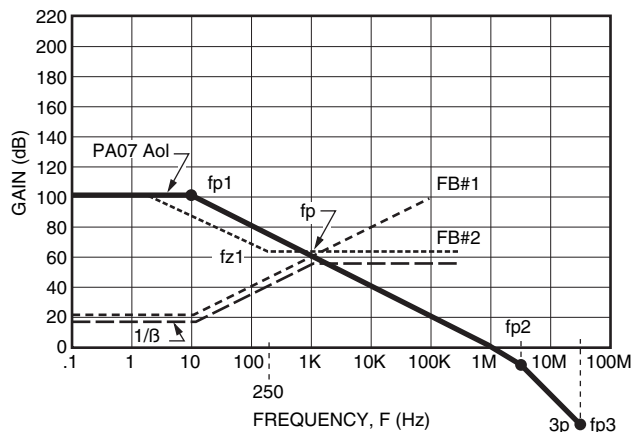
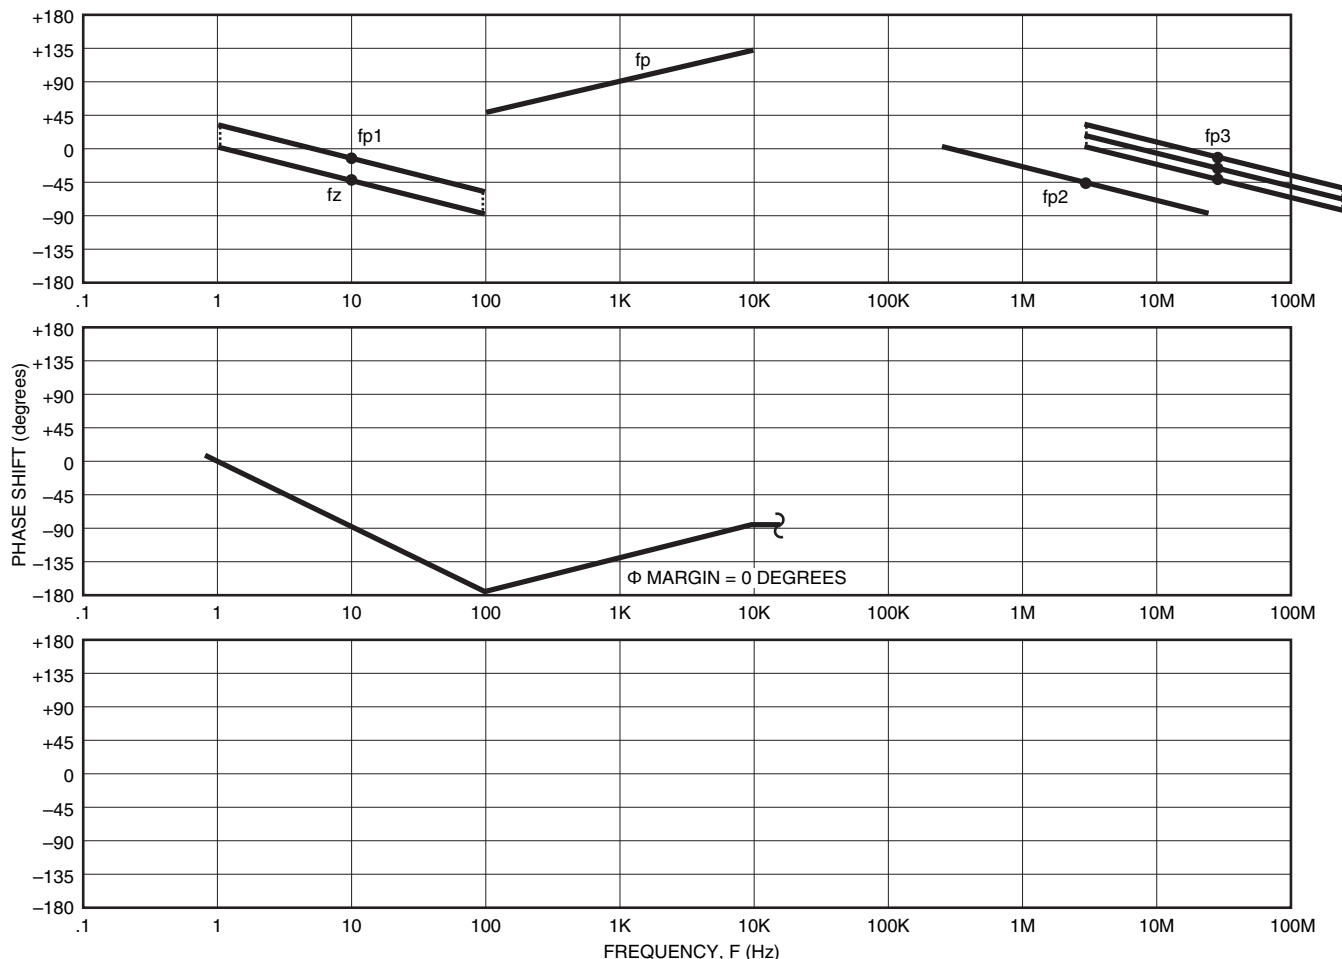

FIGURE 19. FIRST GUESS MAGNITUDE PLOT FOR STABILITY
FIGURE 20. FIRST GUESS OPEN LOOP PHASE PLOT FOR STABILITY
STEP 3: Refer to Figure 19 which repeats PA07 Aol and FB#1. We will add FB #2 to force the high frequency part of the 1/β curve to flatten out and intersect the PA07 Aol curve at 20 dB per decade. FB #2 will dominate at frequencies above 1 KHz. Although our V-I circuit has two feedback paths, the op amp will follow whichever feedback path is dominant. This means the larger β is, the more voltage is fed back from the output to the -input as negative feedback (Remember $\beta = V_{fb}/V_{OUT}$). With a larger β, 1/β will
STEP 4: In Figure 19 the long-dashed line represents the 1/B feedback path that the PA07 operates in for small signal AC. According to our first order check for stability we see a 20 dB per decade rate of closure indicating a stable design. But let’s do our complete stability check by using the 1/B curve and PA07 Aol curve to plot the open loop phase plot. Remember the following rules when plotting open loop phase plots for stability checks.
Figure 20 is the resultant open loop phase plot using the information from Figure 19. After plotting individual open loop poles and zeroes, and drawing the appropriate slopes, we graphically add the slopes to yield a resultant open loop phase as shown in Figure 20. Notice fp3 in Figure 20 is a triple pole. It is easier to plot this as shown in Figure 20 as three poles “on top” of each other. This
makes it easier to add graphically for a resultant open loop phase plot. As shown in Figure 20, our open loop phase dips to -180 at 100Hz. Our first attempt at compensation was not successful since we desire at least 45 degrees of phase margin (open loop phase should not dip to less than -135 degrees).